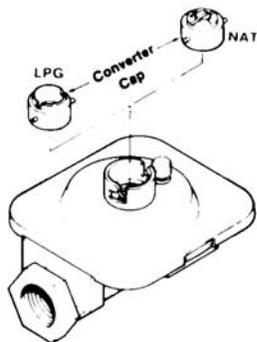

FIGURE 10
1. Remove the cap, push down and turn counter-clockwise. Turn the cap over and reinstall (figure 10).
- Change the appliance pressure regulator from natural to LP setting. (See figures 10, 11 or 12).
- Change the appliance pressure regulator from LP to natural setting. (See figures 10, 11 or 12).